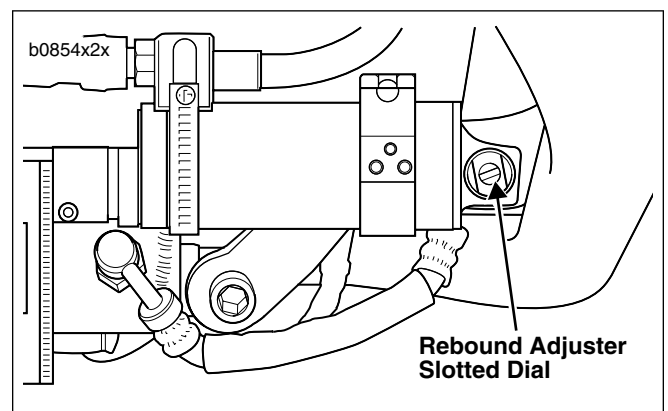

Figure 6. Rebound Adjustment
- See Figure 6. Set rebound damping using the slotted dial on the remote reservoir at the front of the shock. New factory setting is as listed below: